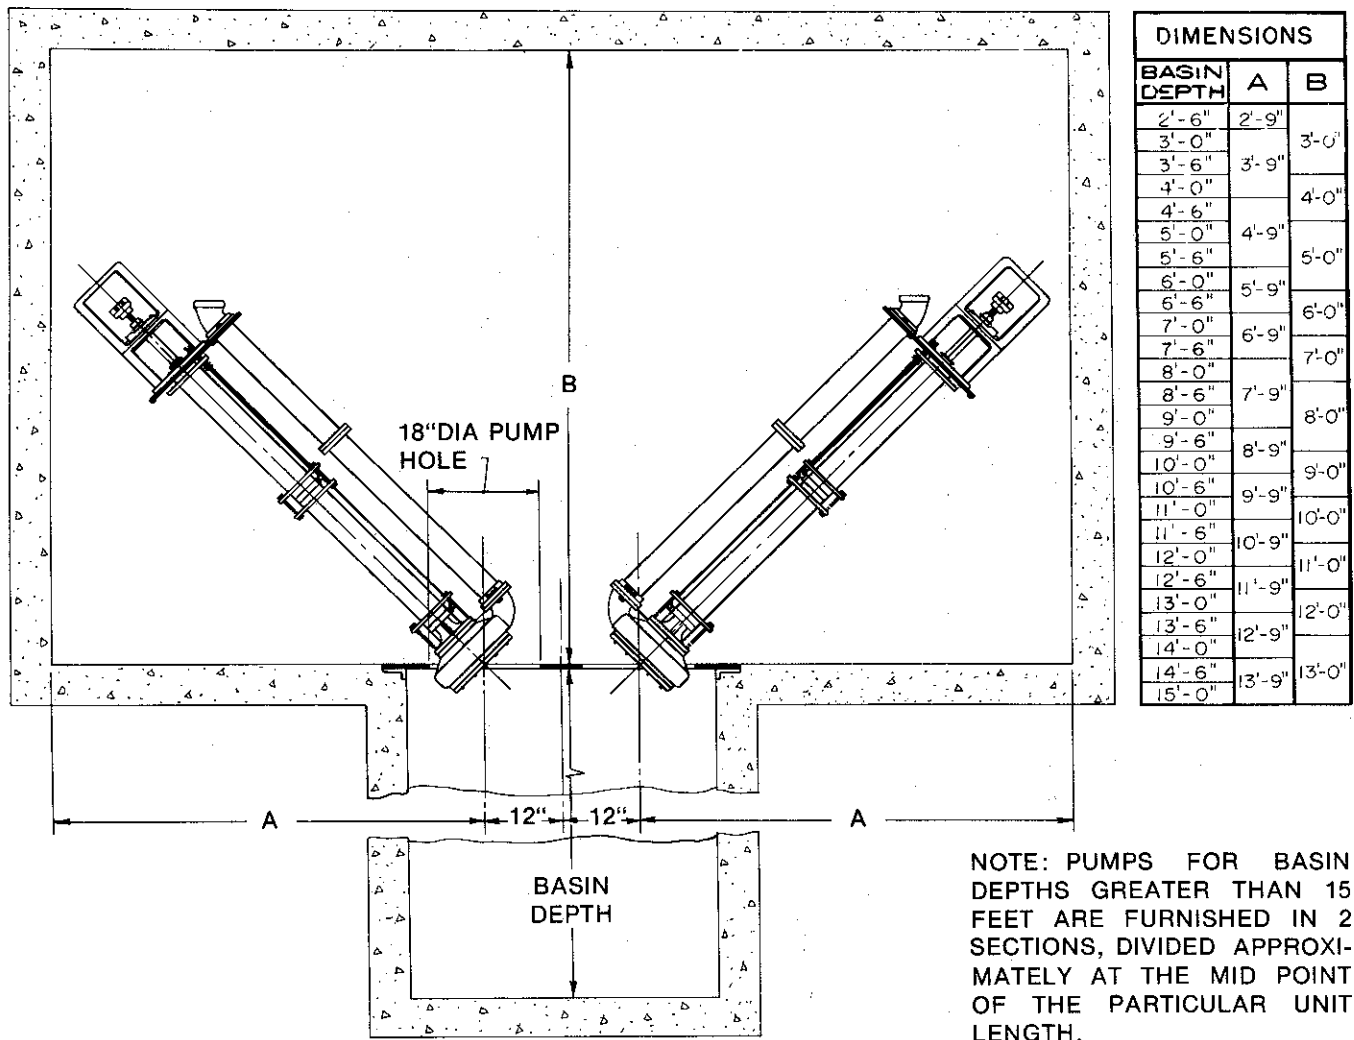

Figure 1. Pump Room Clearance for Installation and Removal of VCS Pumps
If a basin cover with manhole or access hatch as shown in figure 1 is used, the cover may be permanently set before pump installation.
2. Using a suitable hoist or lifting means, ease the unit slowly through the basin cover hole (see figure 1) and lower the pump into the basin.